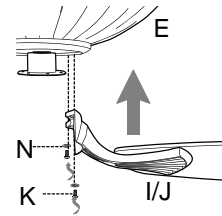

Fig. 3
3. Locate motor screws (K) and lock washers (N) that were previously removed on page 5. (Additional motor screws (K) and lock washers (N) are in hardware pack.) Insert only one motor screw (K), along with lock washer (N), through blade arm (I) to attach blade arm (I) to motor and partially tighten the motor screw (K). Repeat with remaining blade arms (I). [Fig. 3]